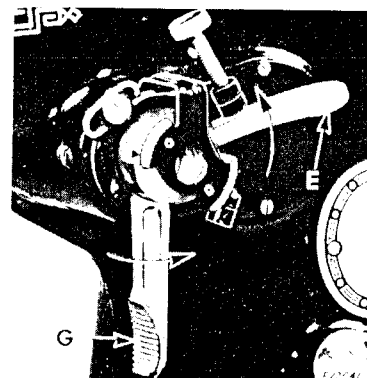

Fig. 32
**SETTINGS:** Bight Control lever **E** at **highest** point and position lever **G** at **lowest** point, as shown in Fig. 32.